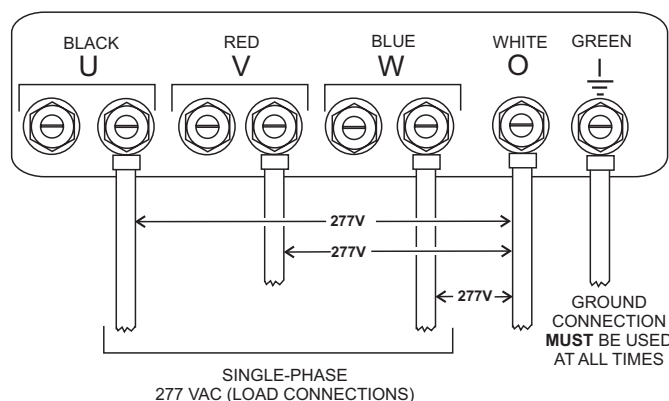

Figure 34. UVWO Terminal Lugs 1Ø-277V Connections
2. Connect the load wires to the UVWO terminals as shown in Figure 34.